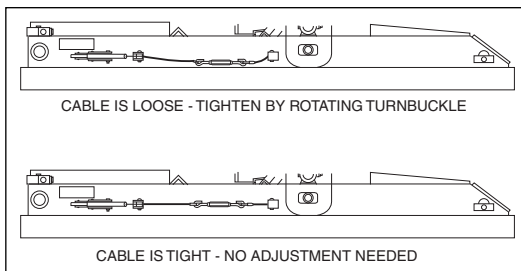

Figure 5
1. Check top plate lockdown mechanism cables. With handle in "Highway Use" position cable should be moderately tight and not sagging excessively. If cable is loose, rotate turnbuckle to tighten cable (see *Figure 5*).